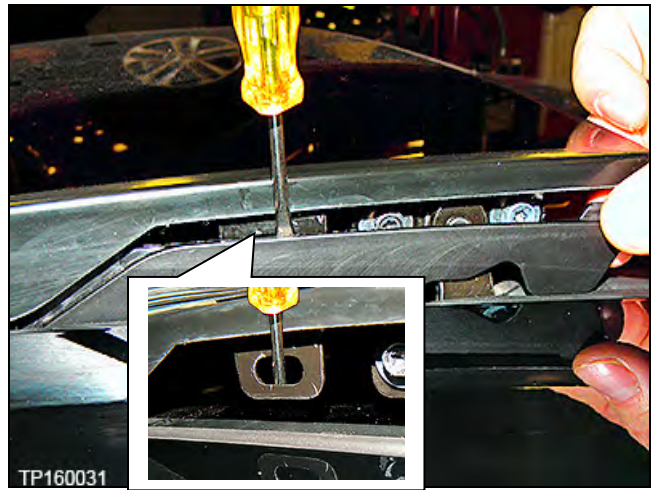

Figure 54
- f. Insert the pocket screw driver through the hole in the steel tab to release the retaining clip (Figure 54).